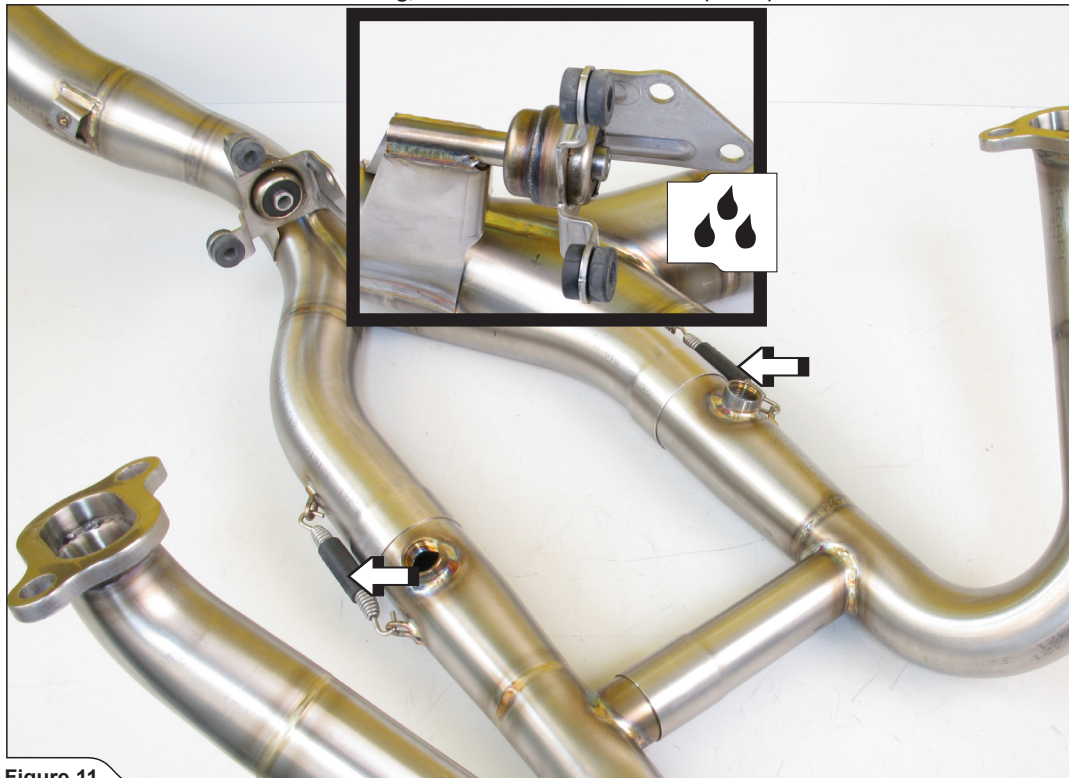

Figure 11
11. Assemble the Akrapovič headers with collector, attach the springs and attach the stock rubber bracket onto the collector, as shown (Figure 11).